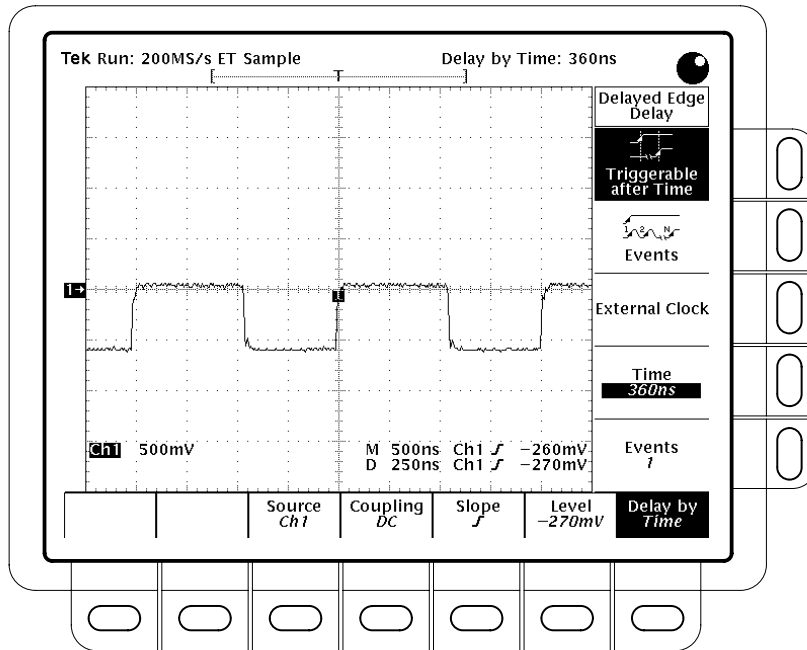

Figure 3–6: Delayed Trigger Menu (TDS 400A shown)
4. On a TDS 400A, press **SHIFT DELAYED TRIG** → **Delay by** (main) → **Triggerable After Time, Events, or Ext clks** (side) (Figure 3–6).